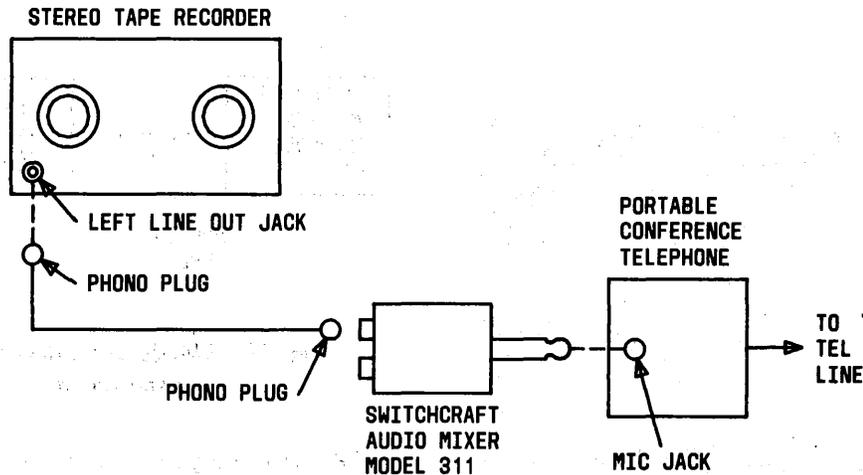

Fig. 61—Arrangement for Local and Remote Playback (On-Line)
7.18 If the tape recorder does not have a playback volume control, use a customer-provided adapter and connect as shown in Fig. 61.